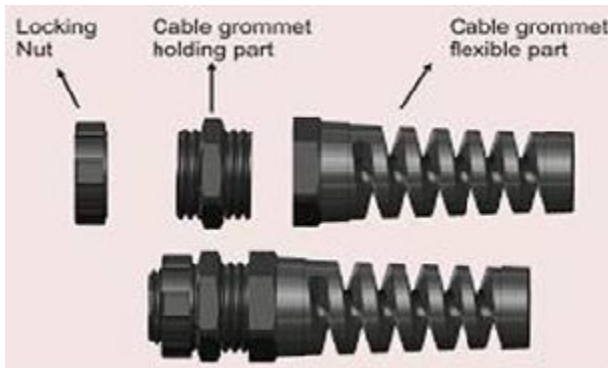

Figure 124
- Take the new power cord which comes along with grommet assembly and separate the grommet assembly into three parts as shown in Figure 124 then take out the grommet nut and keep aside.